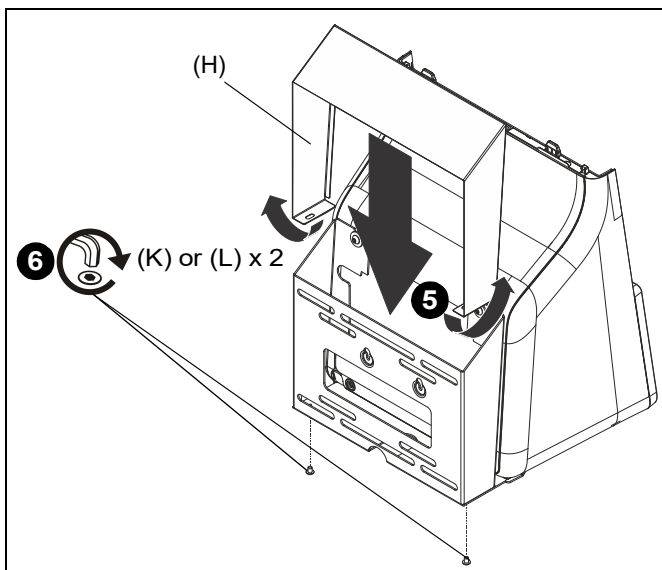

Figure 13
5. Install bracket cover (H) over kiosk bracket (G). (See Figure 13)
6. Use two #10-24 x 3/8" button head cap screws (K) or two #10-24 x 1/4" security screws (L) to secure cover to kiosk bracket (G). (See Figure 13)